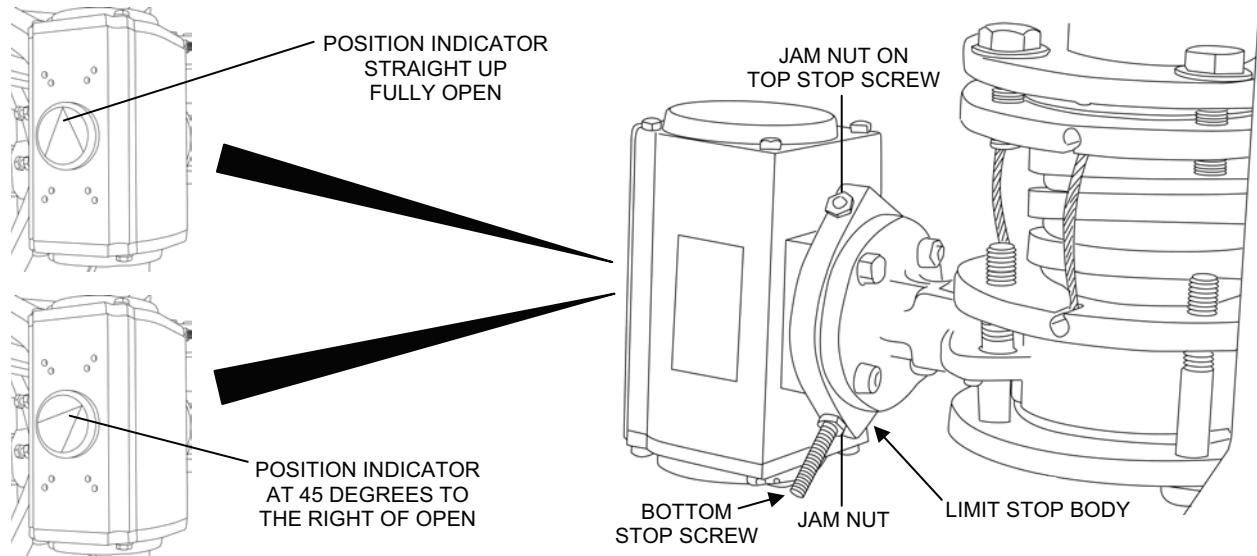

Figure 13. Limit Stop Stop-Screw Adjustment.
6. Set the limit stop stop-screws as follows (see Figure 13):